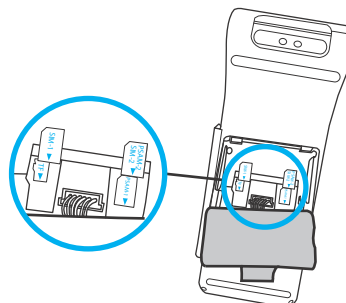

Figure 5 SIM/SAM Insertion
- 5 Insert the SIM/SAM cards without removing the battery. Carefully slide the card into the slot until fully inserted. The correct orientation of the SIM/SAM card is as indicated in Figure 5.